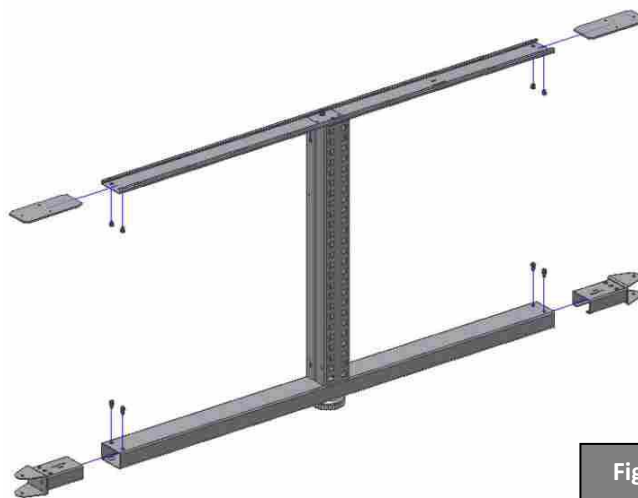

Fig 22
STEP 3 – Join the **generator** to the **frame**, both on the **top profile** and on the **bottom bar** (Fig.22)